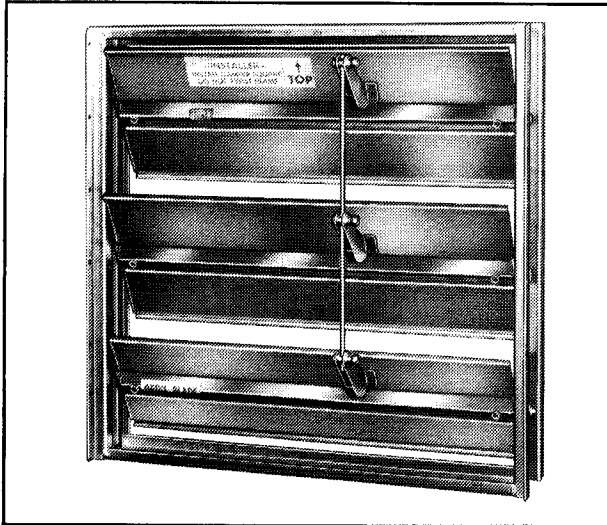

FIG. 18—USE A LOW LEAKAGE DAMPER SUCH AS THE D640 WITH LEAKAGE NOT EXCEEDING 3 PERCENT.
2. The control system shall operate a Honeywell D640 or equivalent low leakage damper (leakage not to exceed 3 percent). The dampers shall be linked so that the outdoor damper closes tightly when the return damper is full open. The return air damper shall close tightly when the outdoor air damper is open. The outdoor damper shall open 45 to 50 angular degrees as the M955 operates through full stroke (open). See Fig. 18.